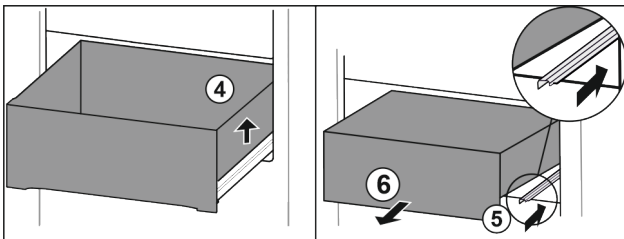

Fig. 22
- ▶ Lift drawer on the right. Fig. 22 (4)
- ▶ Insert right rail. Fig. 22 (5)
- ▶ Remove drawer to the front. Fig. 22 (6)